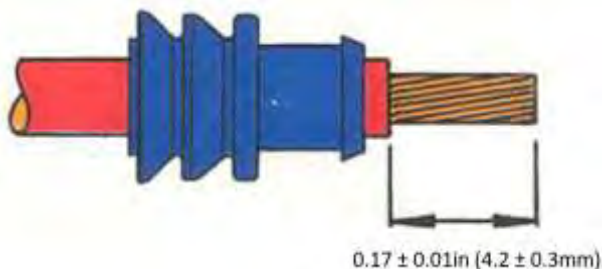

Figure 98
- (2) Use a wire stripper, strip 0.17in. \pm 0.01in. (4.2 ± 0.3 mm) of insulation from the wire on the seal end (Figure 98).